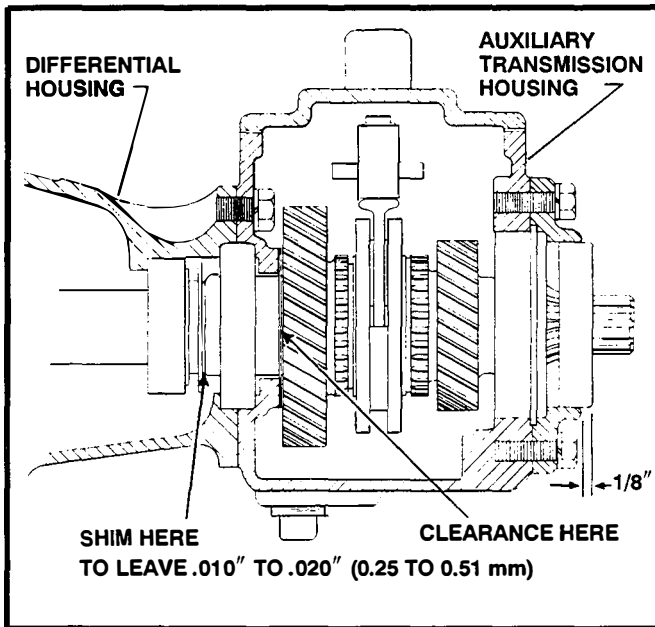

Figure 17.
3. Install sufficient shims over the worm shaft, behind the driven gear to allow .010 to .020 (0.25 to 0.51 mm) clearance between the driven gear and the brass thrust washer when the worm shaft nut has been securely tightened. This can best be accomplished by installing approximately .070 in (1.78 mm) shims. Tighten the worm nut securely and measure the distance between the gear and brass thrust washer; then removing sufficient shims to acquire the proper clearance. See Figure 17.
4. Install new oil seal in retainer. See Figure 17.